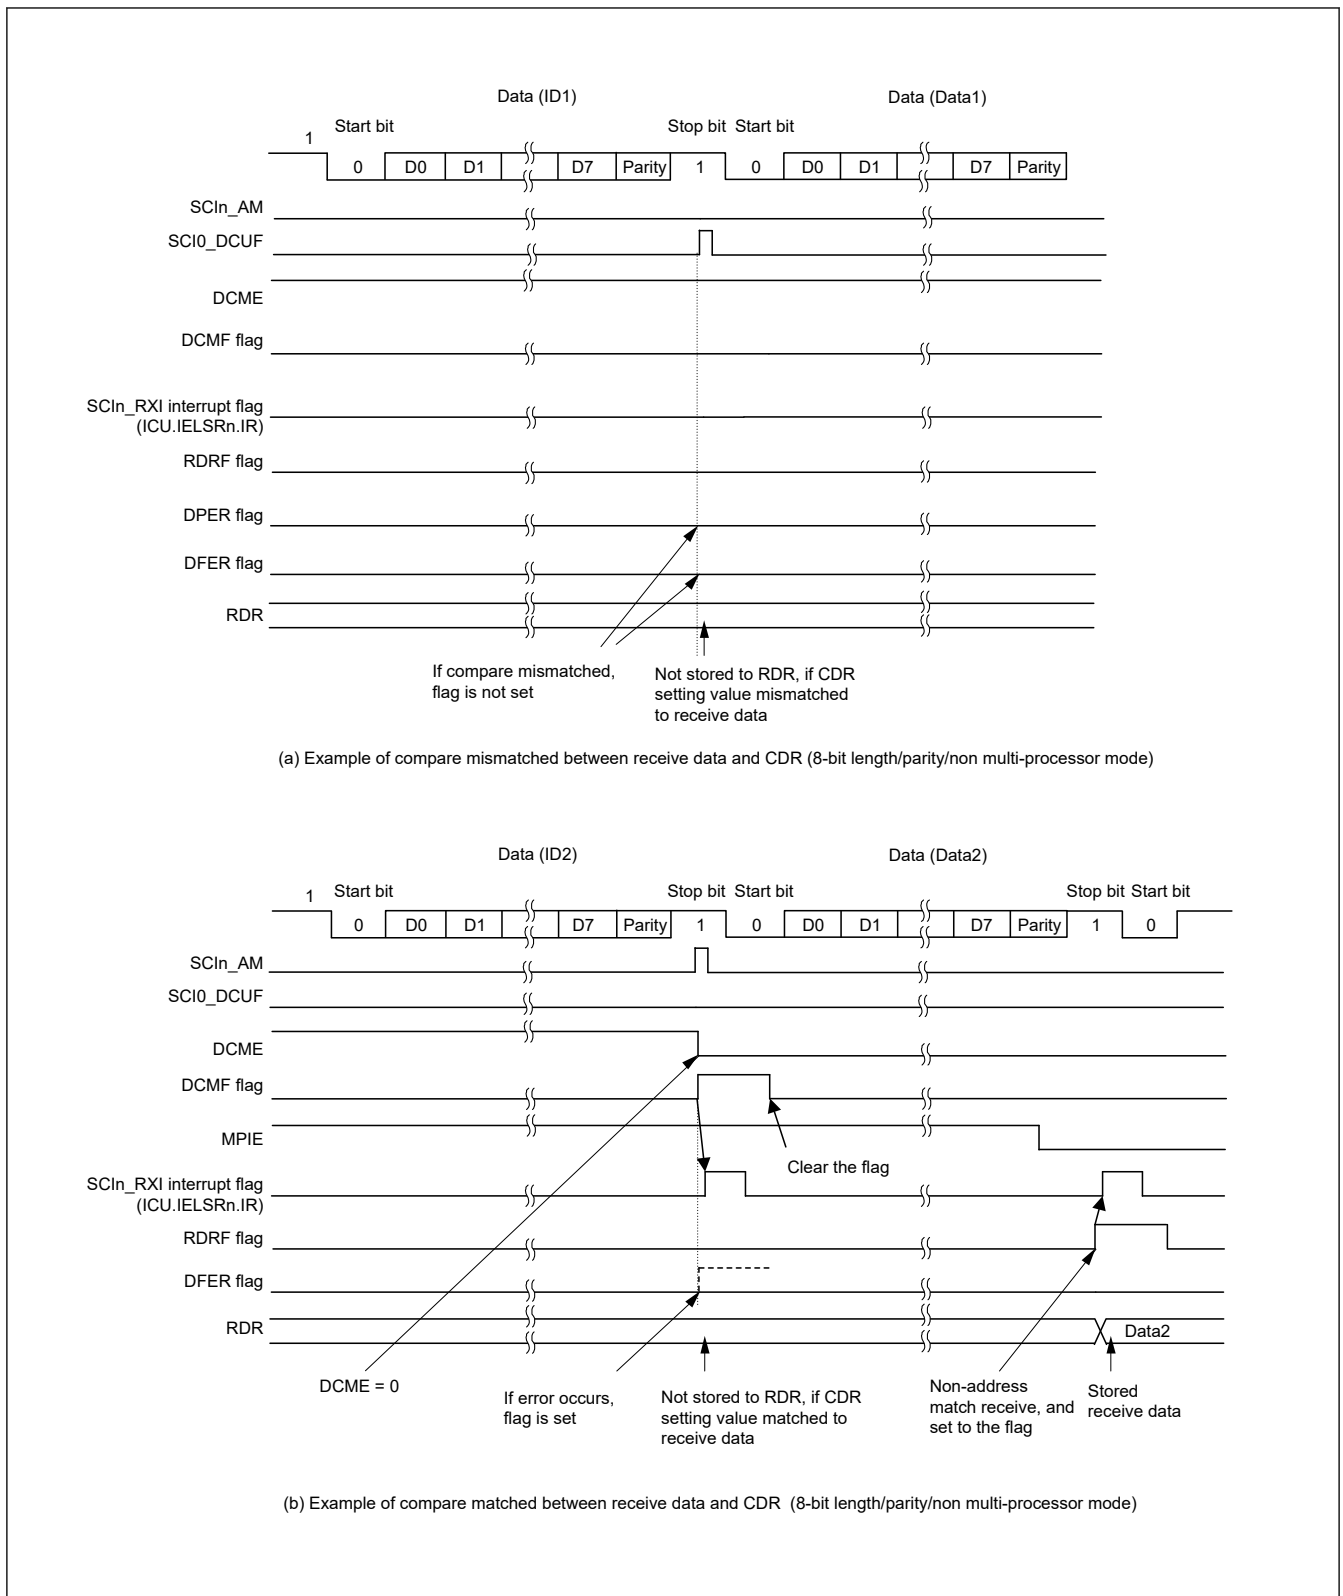
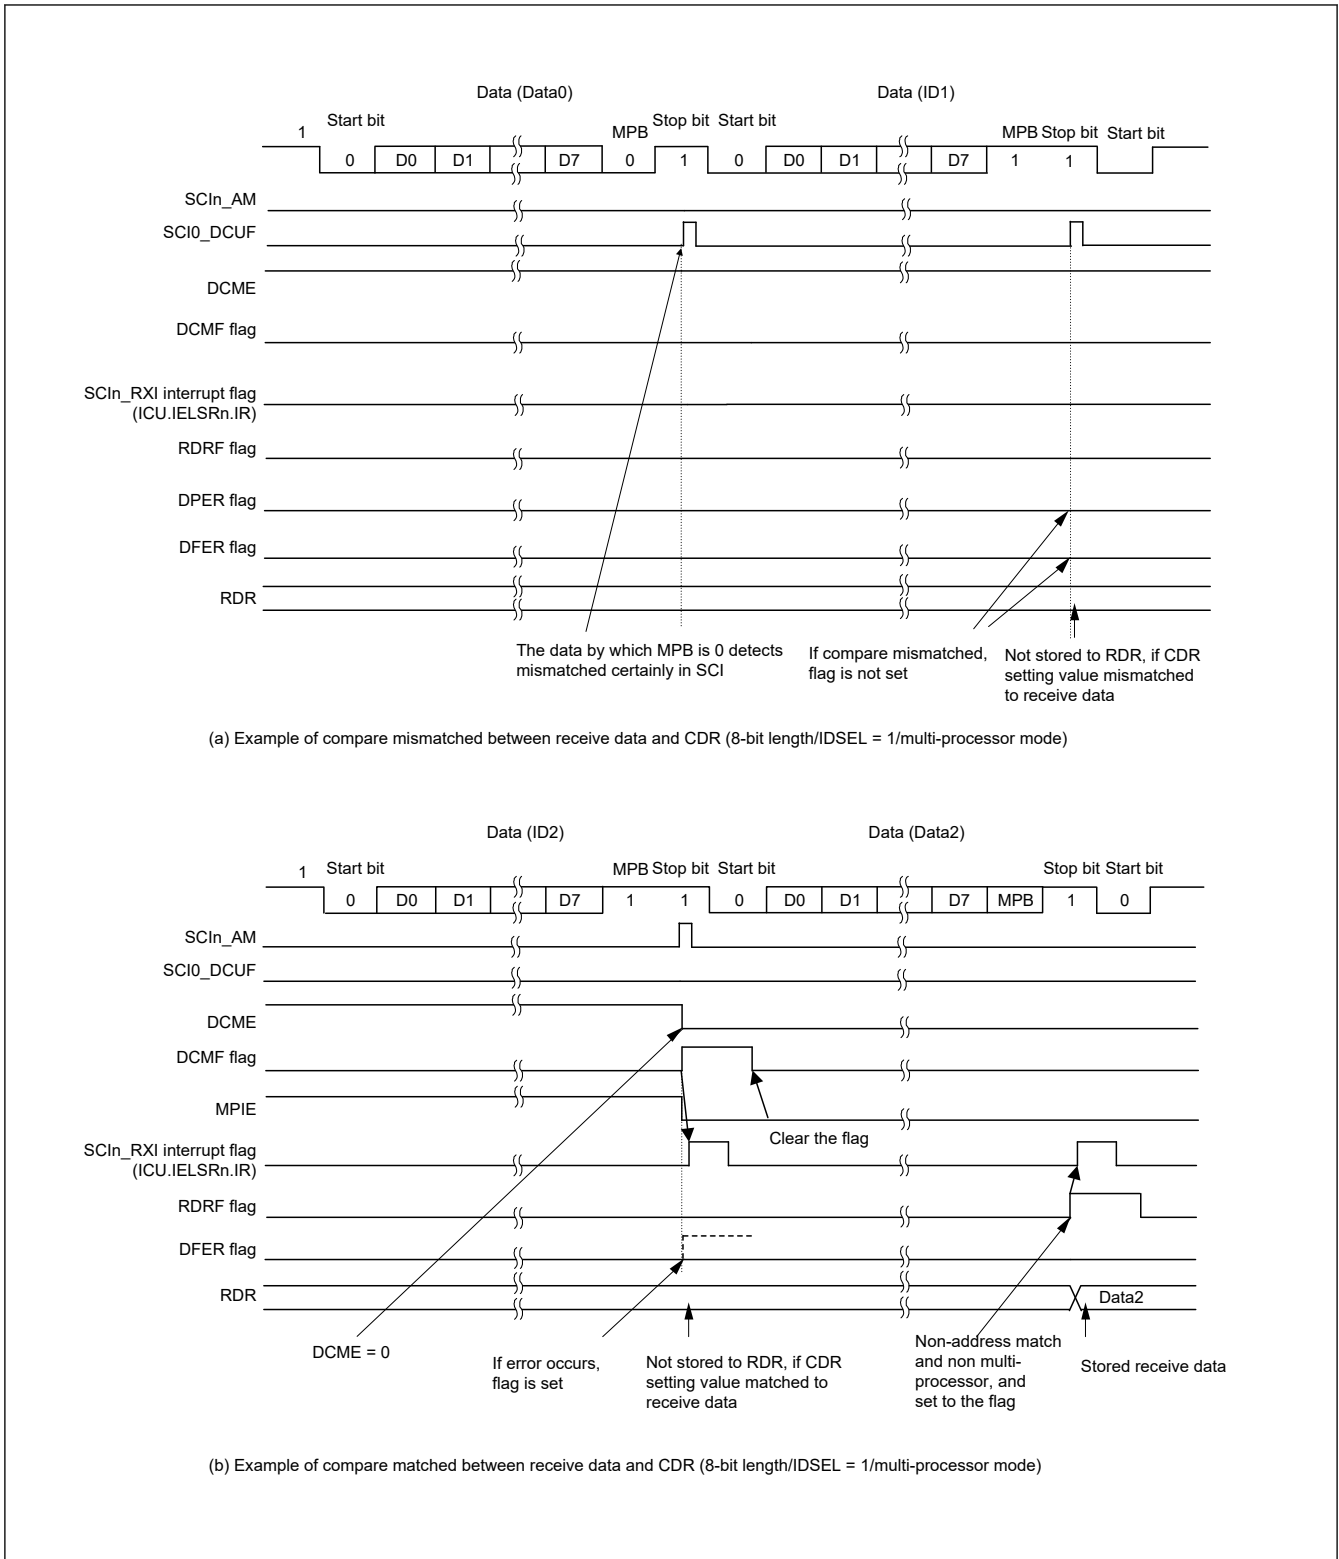

Figure 27.6 Example of address match (1) normal mode
Figure 27.7 Example of address match (2) multi-processor mode
Examples of the address match function are shown in Figure 27.6 and Figure 27.7.
6. If a framing or a parity error is detected (the DCCR.DFER flag or DCCR.DPER flag is 1) in the SCIn\_AM interrupt handling routine, set the DCCR.DFER and DCCR.DPER flags to 0 and set the DCCR.DCME bit to 1 to enable the address match function again. If neither a framing nor a parity error has been detected (the DCCR.DFER and DCCR.DPER flags are both 0), set the DCCR.DCMF flag to 0. See Figure 27.6.